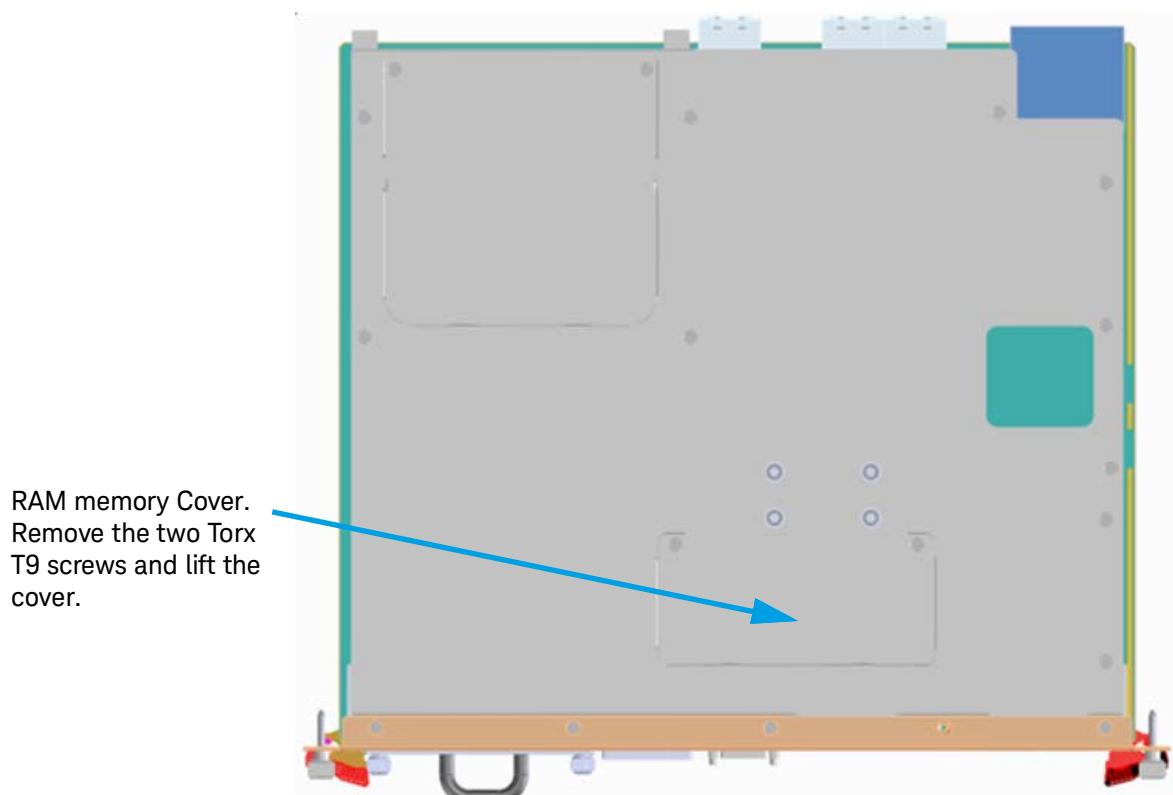

Figure 9 M9538A Memory Modules. Use a T9 Torx Screwdriver to Remove and Replace Screws
- 3 Position the controller, top side up on the workbench as shown in Figure 9.